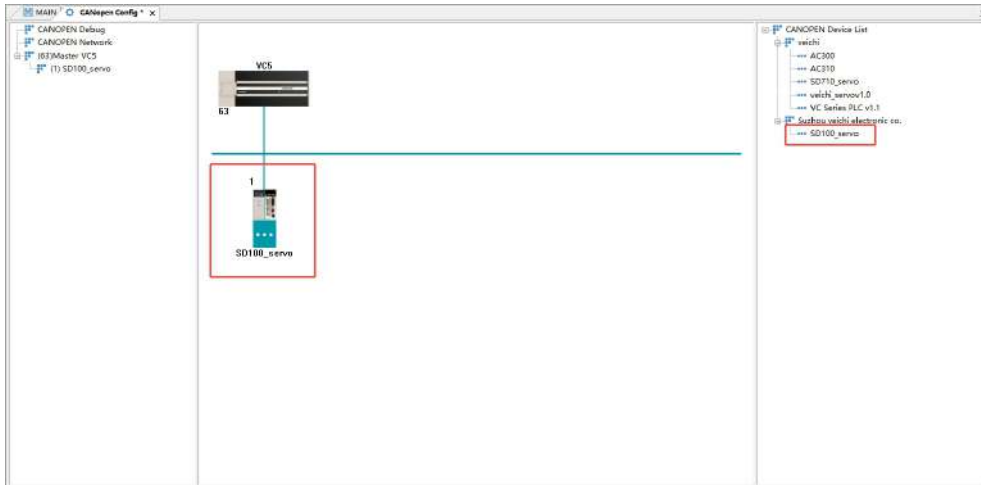

Figure 3-14 Add Controller to Bus Deployment
Step 6: After importing the EDS file, a device entry with the same name as the controller appears in the list. Double-click it to add the controller to the bus deployment on the left, as shown in Figure 3-14.